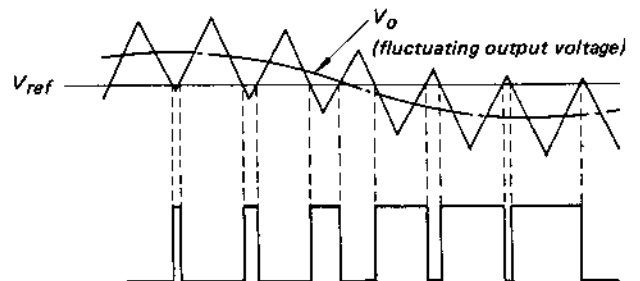

Fig. 11
- 3) When the combined sawtooth wave and reference voltage  $V_{ref}$  are compared and amplified by the error amplifier Q605 and Q606, the output will be pulse-width modulated as shown in Fig. 11.